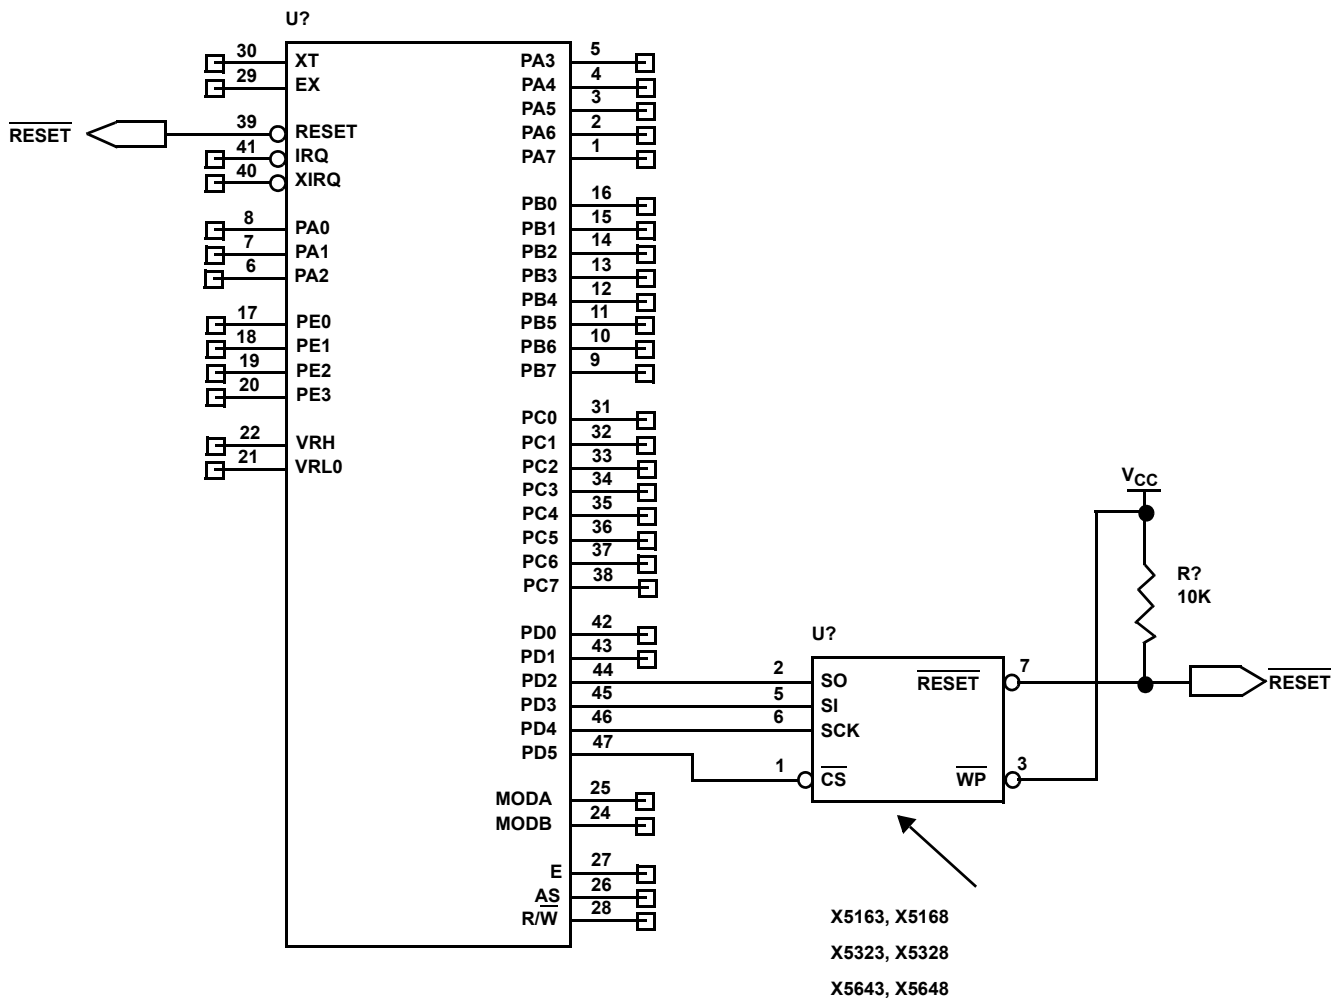

FIGURE 1. INTERFACING THE INTERSIL CPU SUPERVISORS TO THE 68HC11 MICROCONTROLLER USING THE SPI PORT
The following code demonstrates how Intersil's CPU Supervisors with EEPROM can be interfaced to the 68HC11 microcontroller when connected as shown in Figure 1. The circuit uses the 68HC11's built-in SPI port with the PD4/SCK pin connected to the serial clock (SCK), the PD3/MOSI pin connected to serial data in (SI), the PD2/MISO pin connected to serial data out (SO), and the PD5/PCS0/CS pin connected to chip select (\overline{CS}). The SPI interface of the CPU Supervisors operate at 2MHz, so the 68HC11 can operate the SPI port at the maximum speed. This code allows the